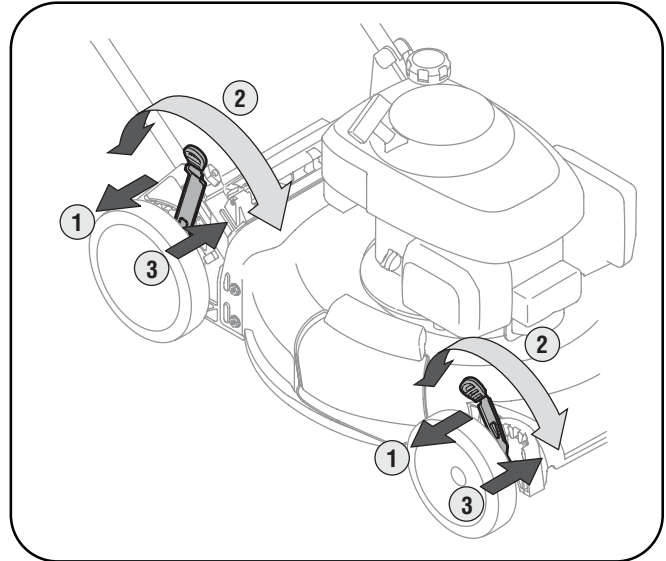

Figure 3-9
2. Slide lever to desired position for a change in cutting height. See Fig. 3-9.